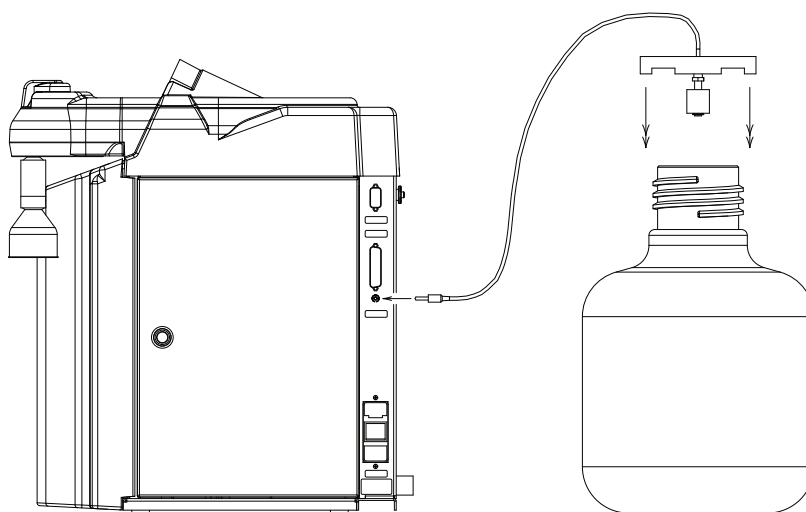

Figure 10-2. Dispense Overflow Cutoff Float
1. Prior to initialing an automatic dispense (time or volumetric), plug AY1367X1 into connector on back right side of Nanopure. See Figure 10-2.